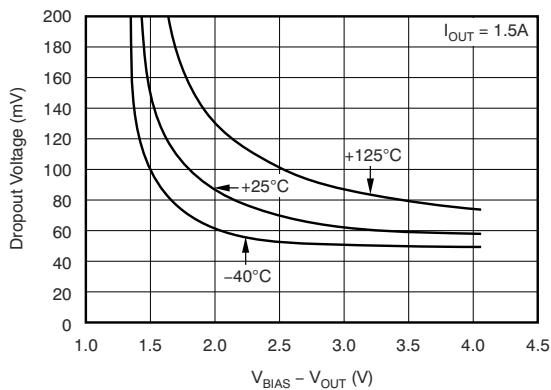

Figure 5-11. V_{IN} Dropout Voltage vs $(V_{BIAS} - V_{OUT})$ and Temperature (T_J)
- (1) Adjustable devices tested at 0.8 V; resistor tolerance is not taken into account.
- (2) Dropout is defined as the voltage from V_{IN} to V_{OUT} when V_{OUT} is 3% below nominal.
- (3) 3.25 V is a test condition of this device and can be adjusted by referring to Figure 5-11.